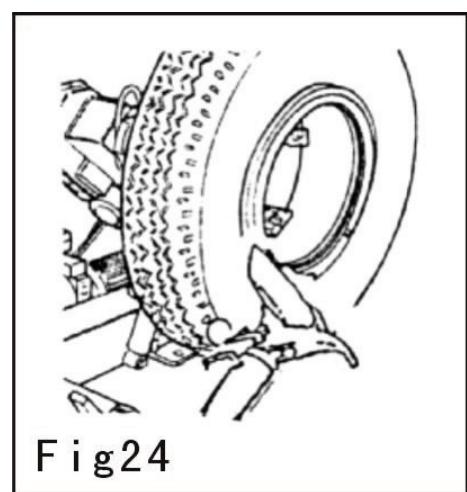

Fig 24
4) Move the tool rack to the outside and disk towards the wheel and lean against the rim. Rotate the main shaft and meanwhile forward the disk making the whole rim into the tire. Place the open ring on the edge of the wheel and install the ring with the help of the bead breaking disk **Fig 24**.